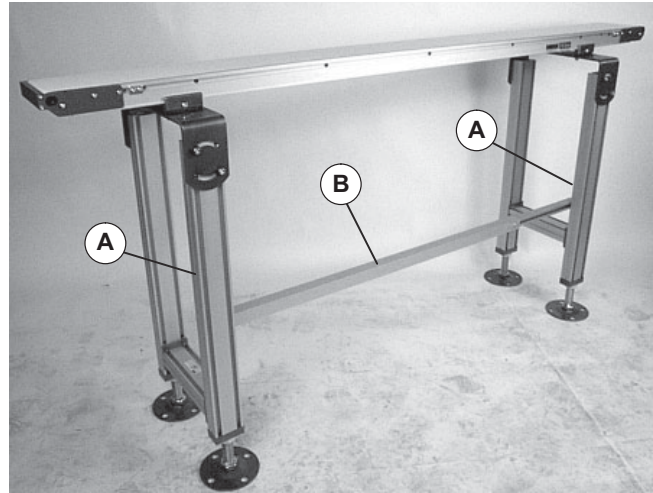
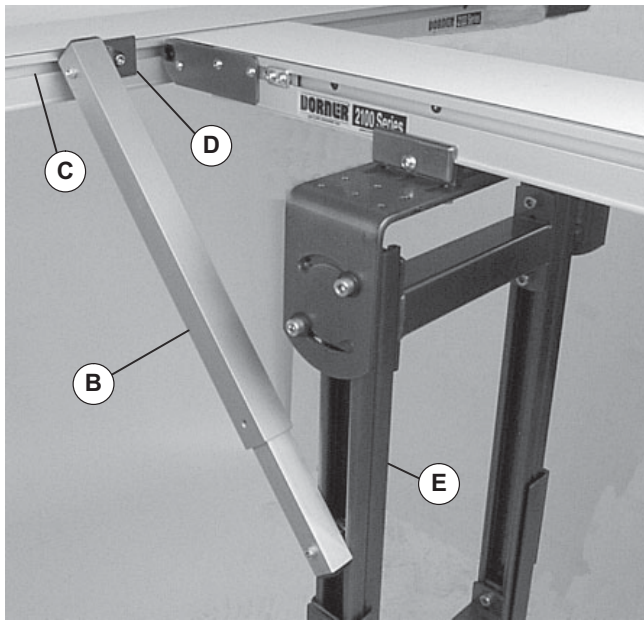
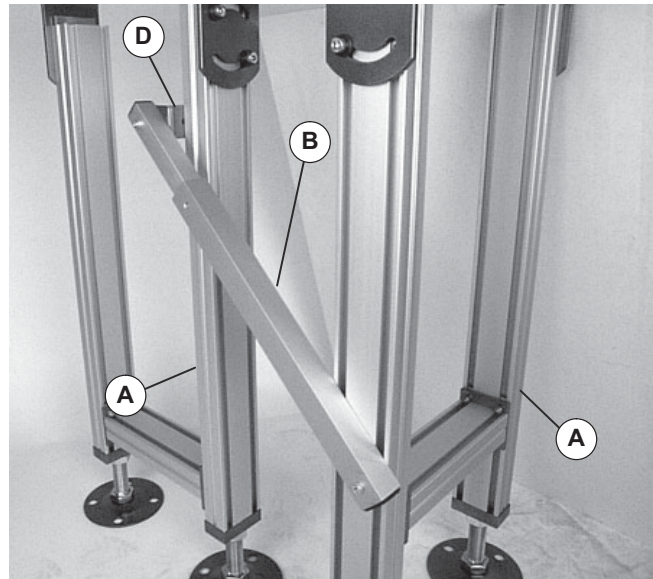

Figure 2
Figure 1
Figure 3
The adjustable tie bracket is a universal bracket compatible with Dorner conveyors and stands. Refer to Figure 1, Figure 2 & Figure 3 for some typical configurations.
- Conveyor (4100 Series not applicable) to stand mounting (Figure 1)
- Stand to stand mounting (Figure 2)
- 90° stand to stand mounting (Figure 3)